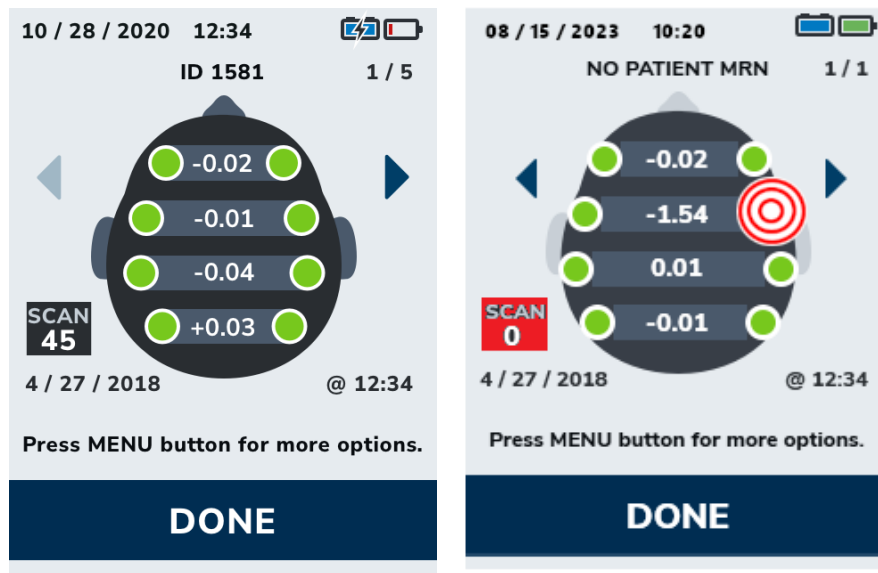

Figure 3-8: Diagnosis Screens
5. The next screen (Archived Measurement screen) is the same as the Diagnosis Screen (Figure 3-8) shown at the end of a measurement. To scroll through measurements of the same patient use the left and right arrows.